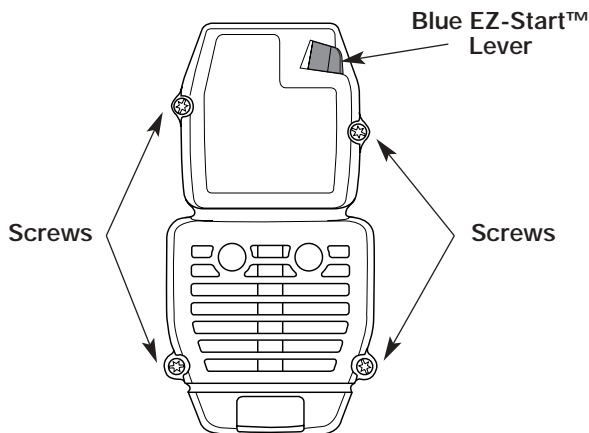

Fig. 17
1. Remove the four (4) screws securing the air filter/muffler cover (Fig. 17). Use a T20 Torx bit screwdriver.
2. Insert the four (4) screws into the holes in the air filter/muffler cover (Fig. 17) and tighten.